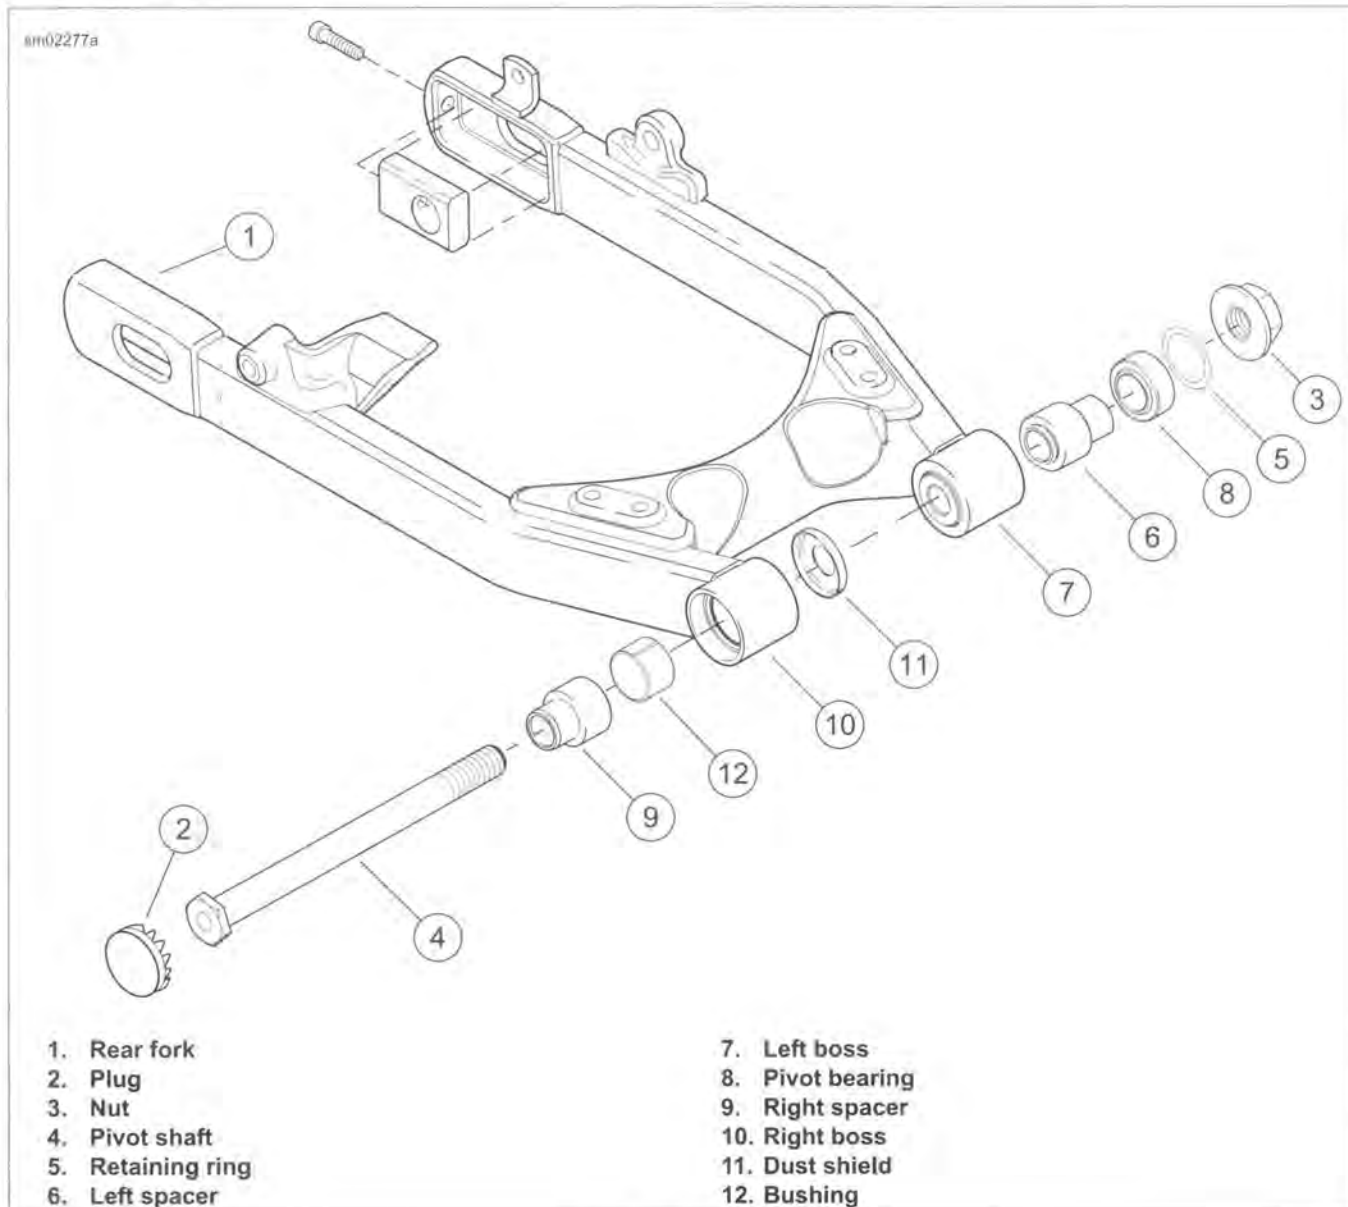
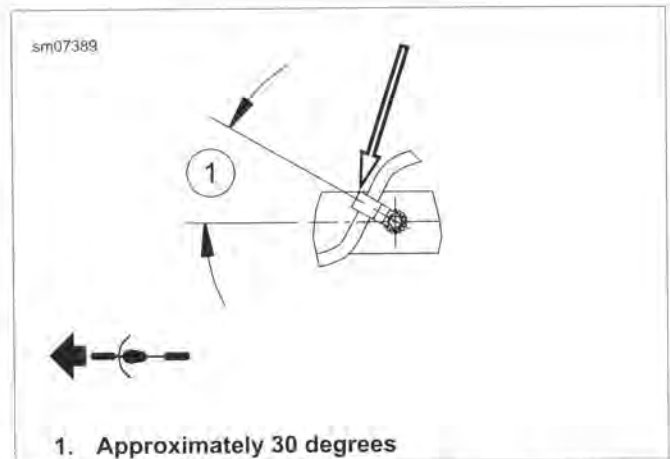

Figure 2-117. Rear Fork
Figure 2-118. Brake Line J-Clip at Rear Fork
7. See Figure 2-117. Remove plug (2).
8. Remove nut (3).
9. Remove pivot shaft (4) with attached nut. Support rear fork (1). Pull assembly from frame.
See Figure 2-117. The pivot bearing (8) is lifetime lubricated and requires no further attention other than cleaning. Only disassemble components from left boss of fork if they are damaged.
1. Remove retaining ring (5), push or with a brass drift tap left spacer (6) inboard to remove it from left boss (7).
2. From inboard side, press or drive pivot bearing (8) from left boss.
3. Push or with a brass drift tap right spacer (9) outboard to remove it from right boss (10).
4. Press bushing (12) and dust shield (11) from fork assembly.
See Figure 2-117. Clean the bearing bore of rear fork with a clean shop towel, removing any dirt or grit adhering to the bearing surface.
1. See Figure 2-117. If necessary, install **new** pivot bearing (8). Press **new** bearing from outboard side until outer race is seated against shoulder in left boss (7).
2. Install retaining ring (5) and left spacer (6). The spacer must be inserted from the inboard side.
3. If bushing (12) must be replaced, press the bushing and dust shield (11) into the fork bore so dust shield is flush to 0.060 in (1.50 mm) above fork bore.
4. Coat right spacer (9) with **WHEEL BEARING GREASE**. Insert spacer into bushing with chamfered end facing inward.
5. See Figure 2-118. If removed, align J-clip as shown and install screw. Tighten to 40-60 **in-lbs** (4.5-6.8 Nm). Do not allow clip to pass above top of rear fork.
3. See Figure 2-117. Hold fork assembly in position. Install the pivot shaft (4) with attached nut from right side. Install nut (3) on threads of pivot shaft. Tighten nut to 70-77 ft-lbs (95.0-104.5 Nm).